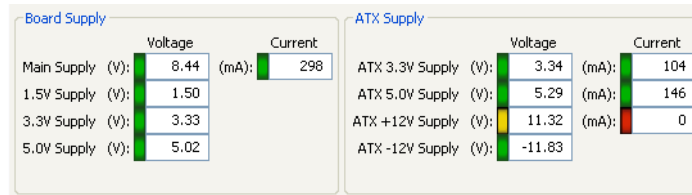
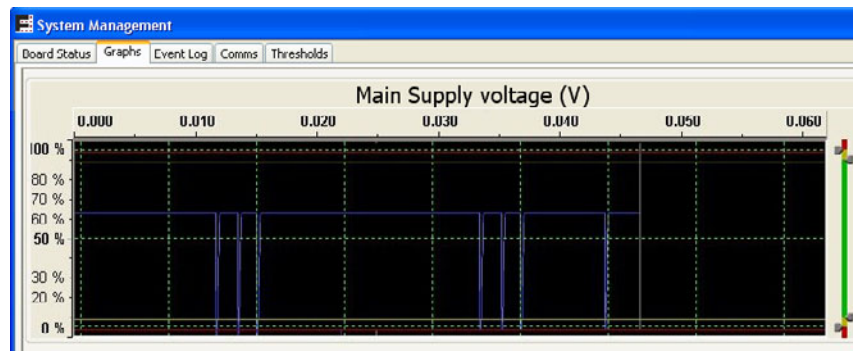

Figure 5-9. Board Voltage Monitoring
Figure 5-10. Board Voltage Monitoring: Main Supply Graph
1. Observe voltages in real-time (including potentiometer) in the **Board Status** tab (Figure 5-9).
3. Observe the reading for **Main Supply** in the **Board Supply** panel (Figure 5-9). Compare this reading to the reading for the main supply voltage in the **Graphs** tab (Figure 5-10).
4. Observe the reading for 3.3 V, 5.0 V, and +12 V in the **PSU Supply** panel (Figure 5-9). Compare this reading to the reading for each voltage level in the **Graphs** tab. You may have to scroll down for each voltage level using the scroll bar on the right hand side.